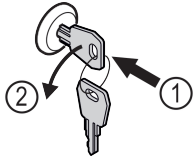

Fig. 124
- ▶ Insert the key. Fig. 124 (1)
- ▶ Turn the key anticlockwise by 90°. Fig. 124 (2)